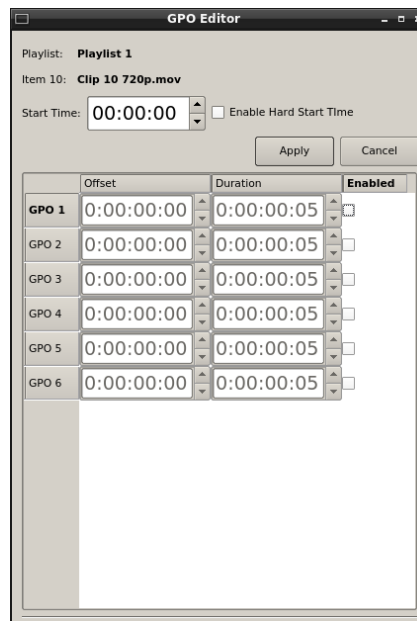

Figure 25 – GPO Editor
- A. Right-click on a clip or scheduled recording in a playlist that you want to set a Start Time for and select **Set Start Time**. The GPO Editor Window shown in Figure 25 will open.